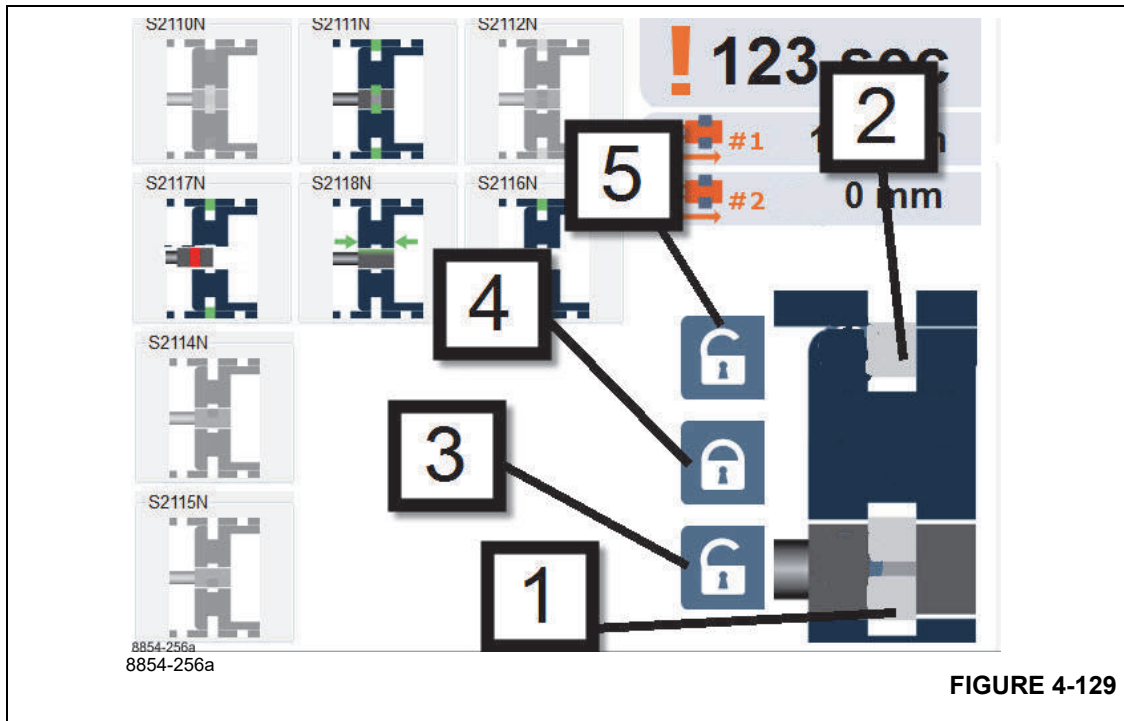
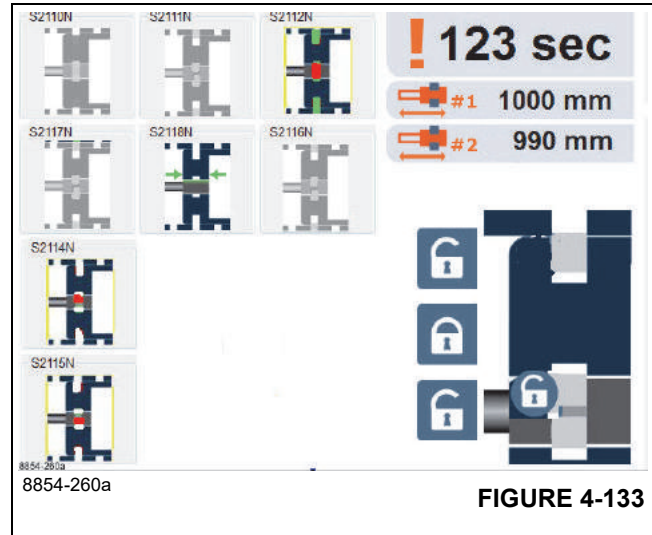

FIGURE 4-129
FIGURE 4-133
Figure 4-129 has further explanation for the telescoping emergency program screen. Item 1 is the graphical representation of the tele cylinder pins that connect to a telescoping boom section. When these cylinder pins are considered retracted, an unlock symbol will appear in this location.
representation of the tele cylinder - refer to Item 1 in Figure 4-129.
The telescoping boom section is unlocked (the unlock symbol is shown near the graphical representation of the section pins - refer to Item 2 in Figure 4-129.
During telescoping motion you are not to select Lock. Under no circumstances, while the tele cylinder is moving, should you select and press the symbol (4, Figure 4-129).
- Now select and confirm the symbol (1, Figure 4-129).
- Select and confirm the symbol (3, Figure 4-129).
The telescoping cylinder is unlocked. In the unlocked position, the screen should appear as indicated by Figure 4-133. The telescoping cylinder is unlocked from any telescoping boom section (unlock symbol shown near the graphical representation of the tele cylinder - refer to Item 1 in Figure 4-129).
The telescoping boom section is locked (the unlock symbol is not shown near the graphical representation of the section pins - refer to Item 2 in Figure 4-129).
- The proximity switch indicators for S2117N, S2118N, and S2116N are used to align the tele cylinder to the hole in the boom section. S2118N is on whenever the tele cylinder pins are in the “foot section” or the near end of the boom section weldment where the hole is located. S2116N goes on when the tele cylinder has extended beyond the hole. S2117N goes on when the tele cylinder is not extended enough to reach the hole. Therefore, one would operate the tele cylinder until S2118N is on, and S2116N and S2117N are off. This is what is shown in Figure 4-133.
- Select and confirm the symbol shown as Item 4 in Figure 4-129.